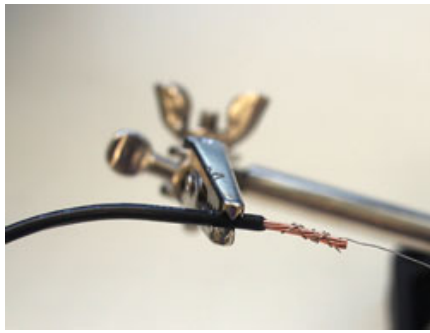
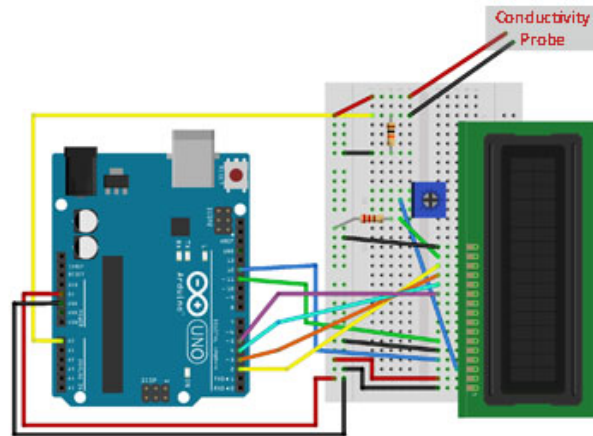
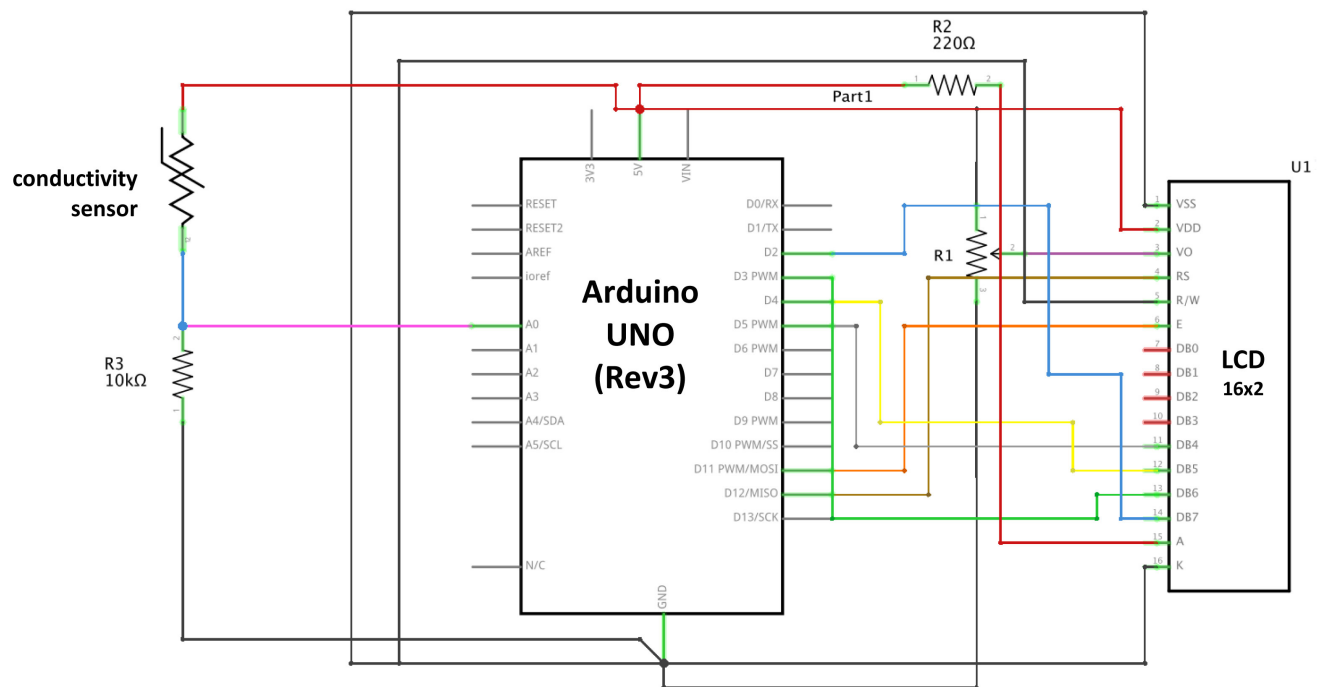

Figure 3. An example wrapped wire.
Figure 11. Circuitry for connecting the probe to the Arduino UNO.
Figure 12. Circuit schematic corresponding to the circuitry shown in Figure 11.
2. One of the most challenging components of this activity is the correct construction and wiring of the LCD screen to the Arduino. Advise students to take their time building the breadboard circuitry and frequently reference Figure 11, which is Figure 3 on the handout. Figure 12 is the corresponding circuit schematic. *Note: Figure 11 does not show the trimpot connected to the GND and the anode, even though it is shown in Figure 12.*
Larger Figure 11: Breadboard Circuitry (png)
Larger Figure 12: Circuit Diagram (png)